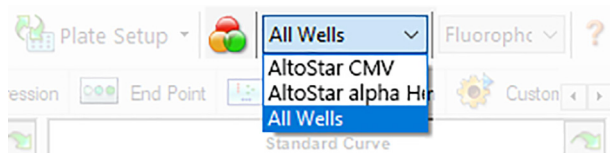

Figure 4: Well Group button and Well Group drop-down menu
In the Data Analysis window ensure to select the **Well Group** of the AltoStar® CMV PCR Kit 1.5. Therefore, click on the **Well Group** drop-down menu right next to the **Well Group** button (see figure 4) of the toolbar. Do not use the “All Wells” **Well Group**. The selection in figure 4 is used as a general example view.
1. In the Data Analysis window ensure to select the **Well Group** of the AltoStar® CMV PCR Kit 1.5. Therefore, click on the **Well Group** drop-down menu right next to the **Well Group** button (see figure 4) of the toolbar.